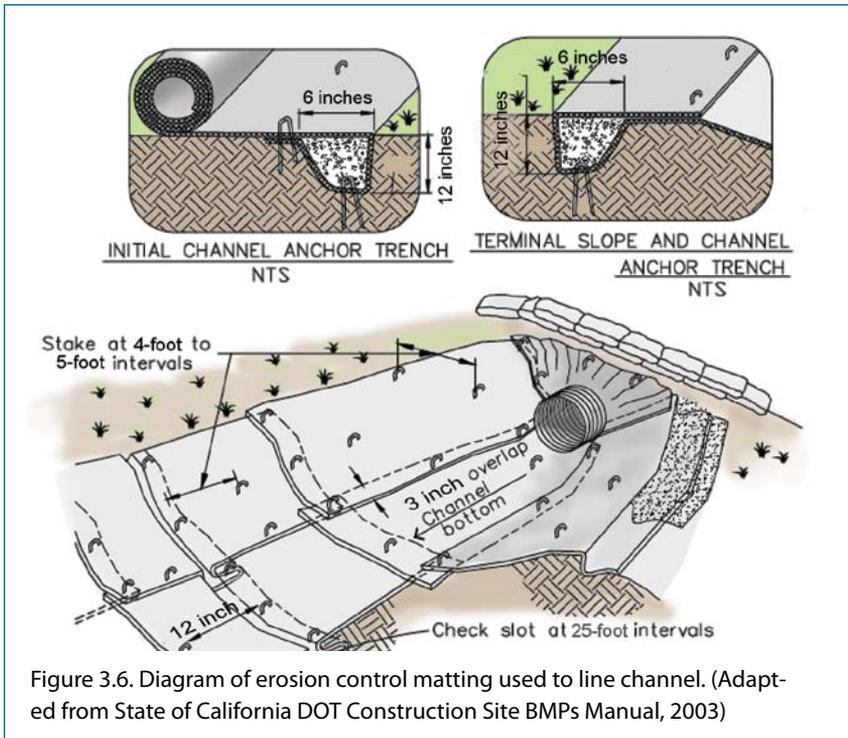

Figure 3.6. Diagram of erosion control matting used to line channel. (Adapted from State of California DOT Construction Site BMPs Manual, 2003)
- Follow manufacturer’s instructions for installing erosion control matting in channels (Figure 3.6).